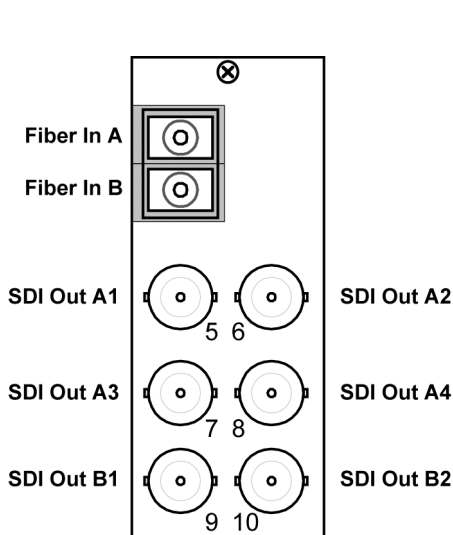

Figure 2.5 Cable Connections for the **RM20-9213-B** Rear Module
- **RM20-9213-B Full Rear Module** — Each 9213-2OE occupies two slots and provides two optical inputs, and six SDI outputs. **Figure 2.5**